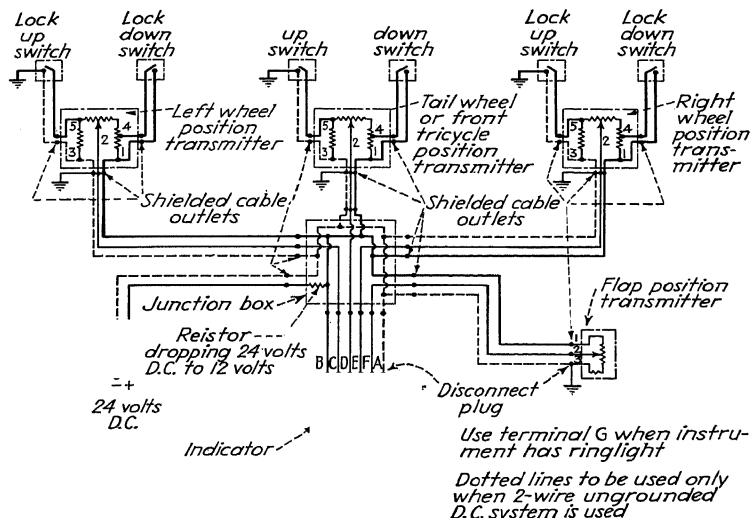
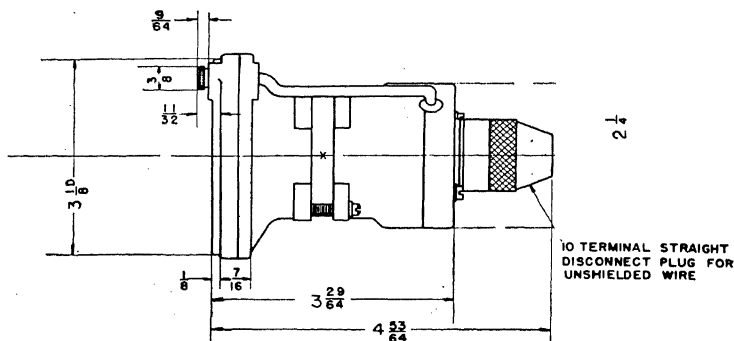

FIG. 58.—Wiring diagram of Autosyn.
Fig. 59.—Installation dimensions of Autosyn indicator.
**Installation.**—A wiring diagram is shown in Fig. 58 for a grounded d.c. system. The necessary connections for an ungrounded system are shown in dotted lines. The numbers shown on the wiring diagram correspond to the numbers on the terminal blocks and disconnect plug of the system. Installation dimensions of the instrument are shown in Fig. 59.